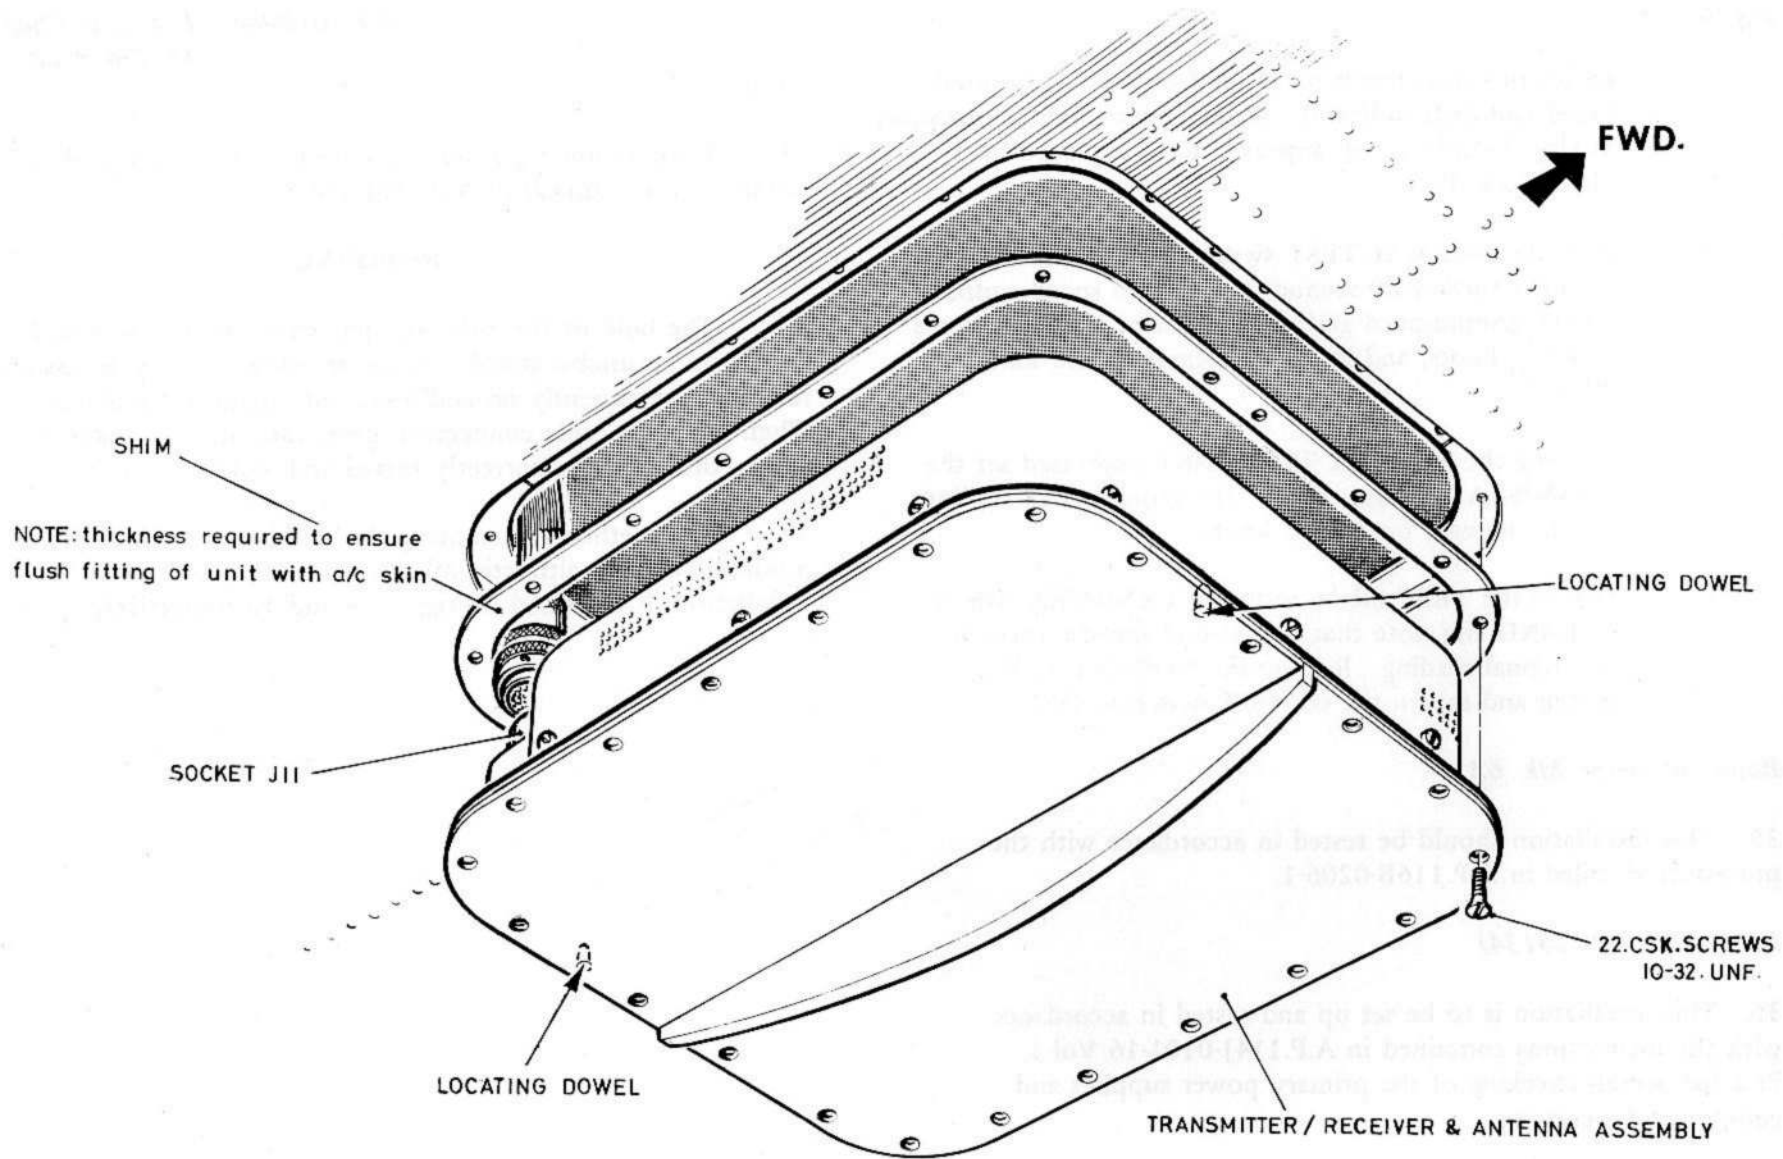

Fig.7.A.R.I.5972/3. Aerial removal.
39. The method of removing the aerials for the Doppler installation, radio altimeter Mk.6A, I.F.F./SSR and TACAN installation, is indicated on figs. 7, 8 and 10 respectively.